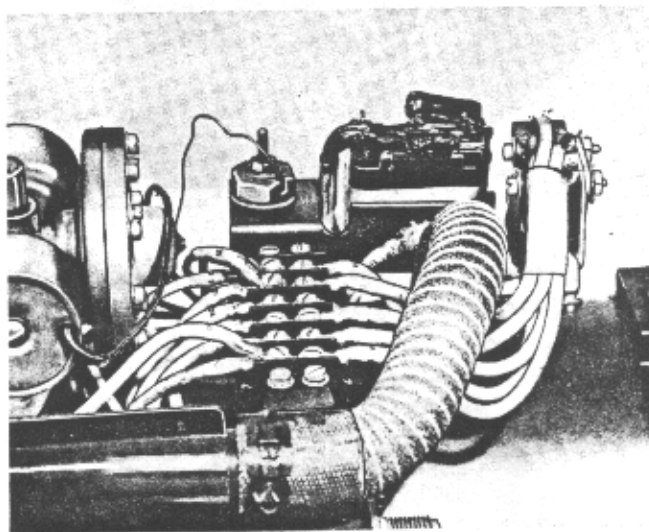

Figure 36
2. Remove the mounting screw and remove the relay from the mounting bracket (Figure 36).